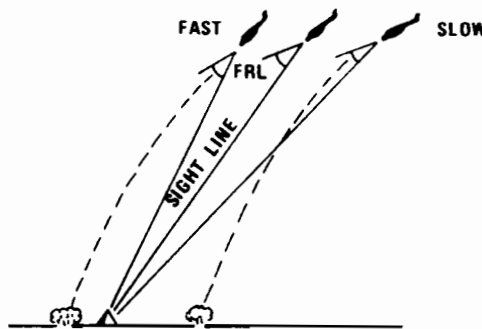

Figure 6-12
c. Airspeed. Since sight depression remains constant, an increase in airspeed will decrease angle of attack, increase effective depression, and cause a long bomb. An increase in airspeed also decreases the time of flight and thereby reduces the effect of gravity. The converse is true for a decrease in airspeed (Figure 6-12).